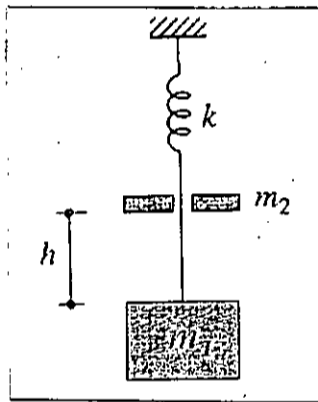

Fig. 1
1. (a) The displacement amplitude  $u_0$  of an SDF system due to harmonic force is known for two excitation frequencies. At  $\omega = \omega_n$ ,  $u_0 = 5$  in; at  $\omega = 5\omega_n$ ,  $u_0 = 0.02$  in. Estimate the damping ratio of the system. (5)
- (b) A mass  $m_1$  hangs from a spring  $k$  and is in static equilibrium. A second mass  $m_2$  drops through a height  $h$  and sticks to  $m_1$  without rebound (Fig. 1). Determine the subsequent motion  $u(t)$  measured from the static equilibrium position of  $m_1$  and  $k$ . (10  $\frac{1}{3}$ )